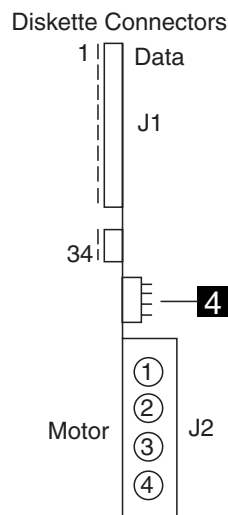

Figure 4-40. FDD Jumpering
- e. Check if the new FDD has a jumper. See Figure 4-40 for **4**. If this is available, ensure that there is a jumper only at position 0.